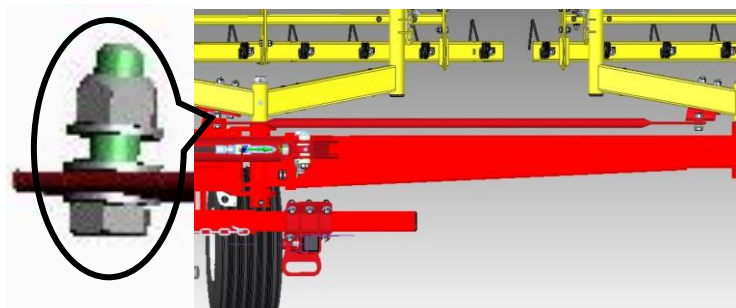

Figure 10
- Between the centre frame and the first side tine section fork, install a folding linkage with the M14x45 bolts and M14 nuts as well as 3 M14 washers. The bolts are tightened firmly enough so that the linkage can still move (Figure 10).